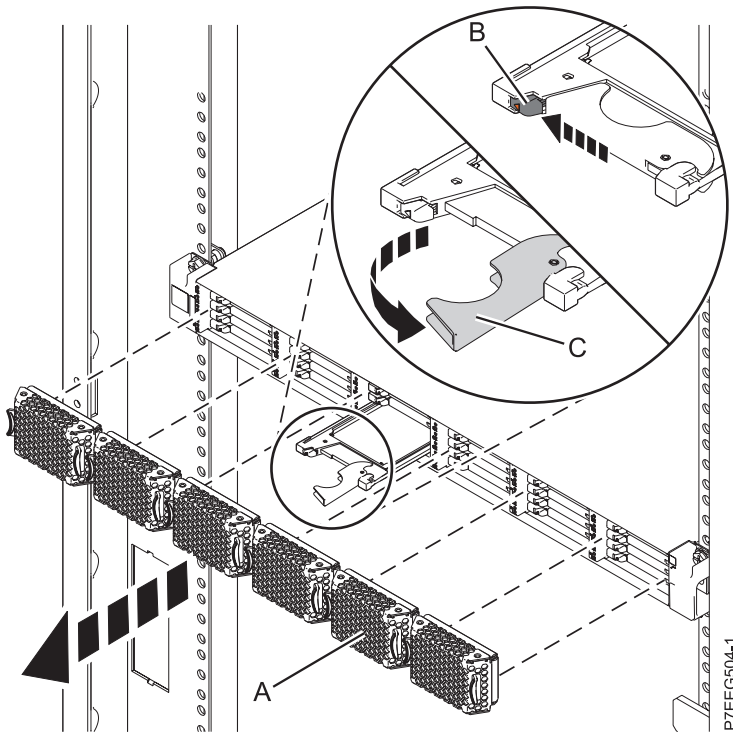

Figure 30. Removing the solid-state drive from the EDR1 PCIe storage enclosure
1. Pull off the bezel (A) that covers the slot containing the solid-state drive.
2. Slide the release latch (B) over gently to unlock the drive handle. See Figure 30 on page 46.